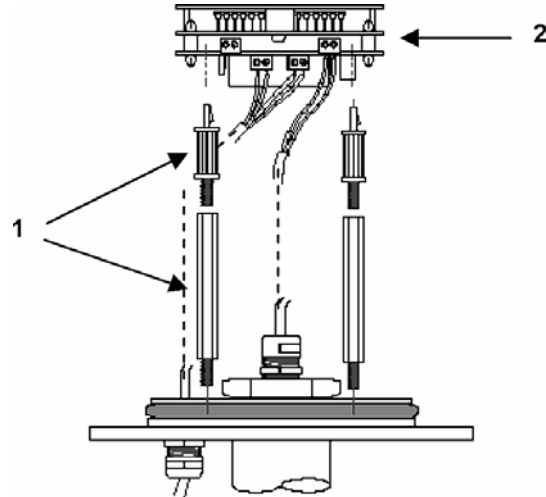

Figure 14
Step 9) Screw the register stand-offs (1) into the base plate and install the register assembly (2) (Figure 14).